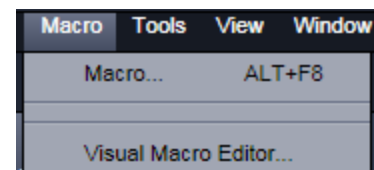

Fig. 2 Macro menu
- This displays the **Macro** menu (see Fig. 2).